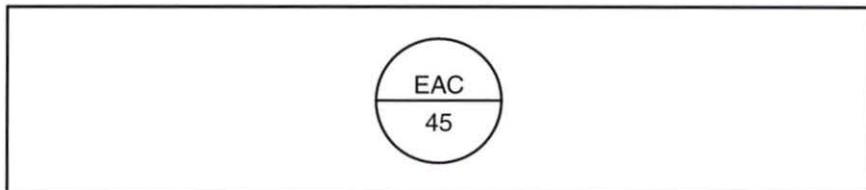

Figure 49. Instrument Tag
7. Determine the measured variable indicated in the instrument tag in figure 49.